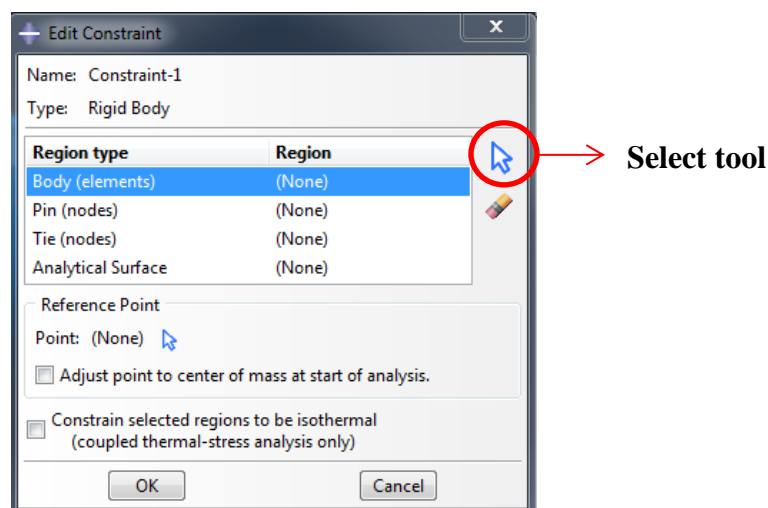

Figure L1a–11. Defining rigid body constraints.
4. In the **Edit Constraint** dialog box, select the region type **Body (elements)** and select the entire open-box instance (using the select tool) using a rectangular drag shape across it. See Figure L1a-11.